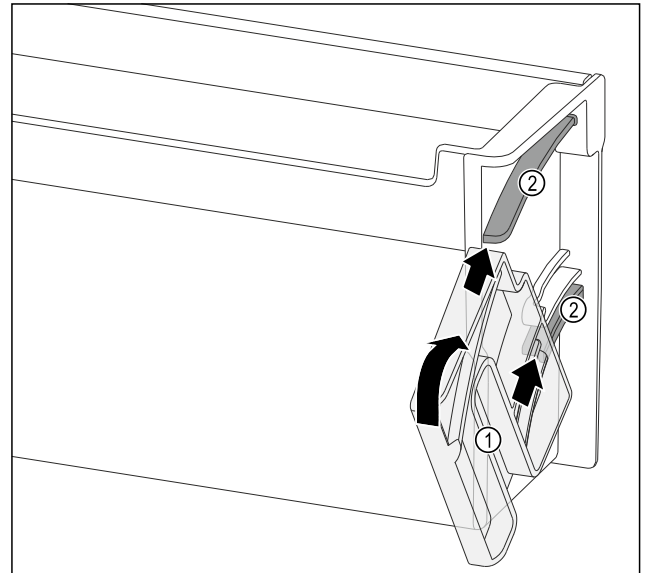

Fig. 140
- ▶ Position the turning unit Fig. 140 (1) so that the recesses are exactly opposite the guide channels Fig. 140 (2) of the door rack.
- ▶ Turn the turning unit Fig. 140 (1) towards the specified direction.